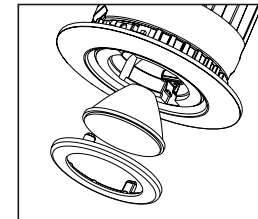

Figure 15
**Step 2.** Place the desired optic onto the gimbal face. Align the posts on the gimbal face with the spring receivers in the gimbal body. Push the face and optic into the gimbal body (Fig. 15).